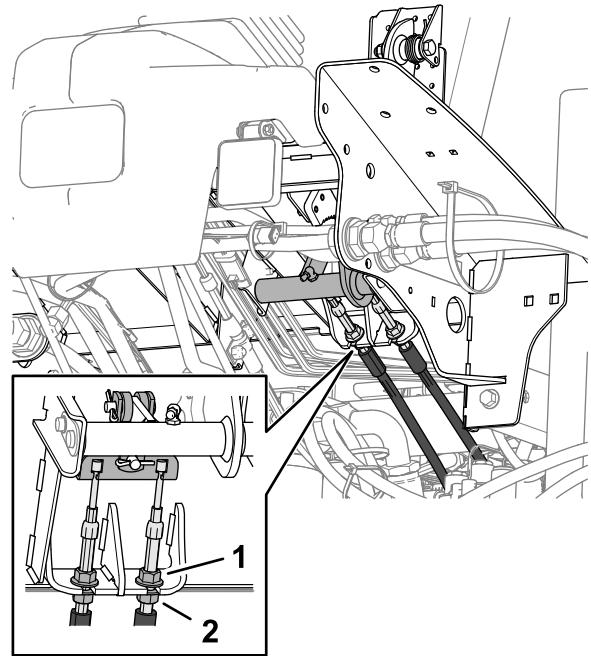

Figure 139
5. To reduce brake pedal-free travel, loosen the front jam nuts on the threaded end of each brake cable (Figure 139).